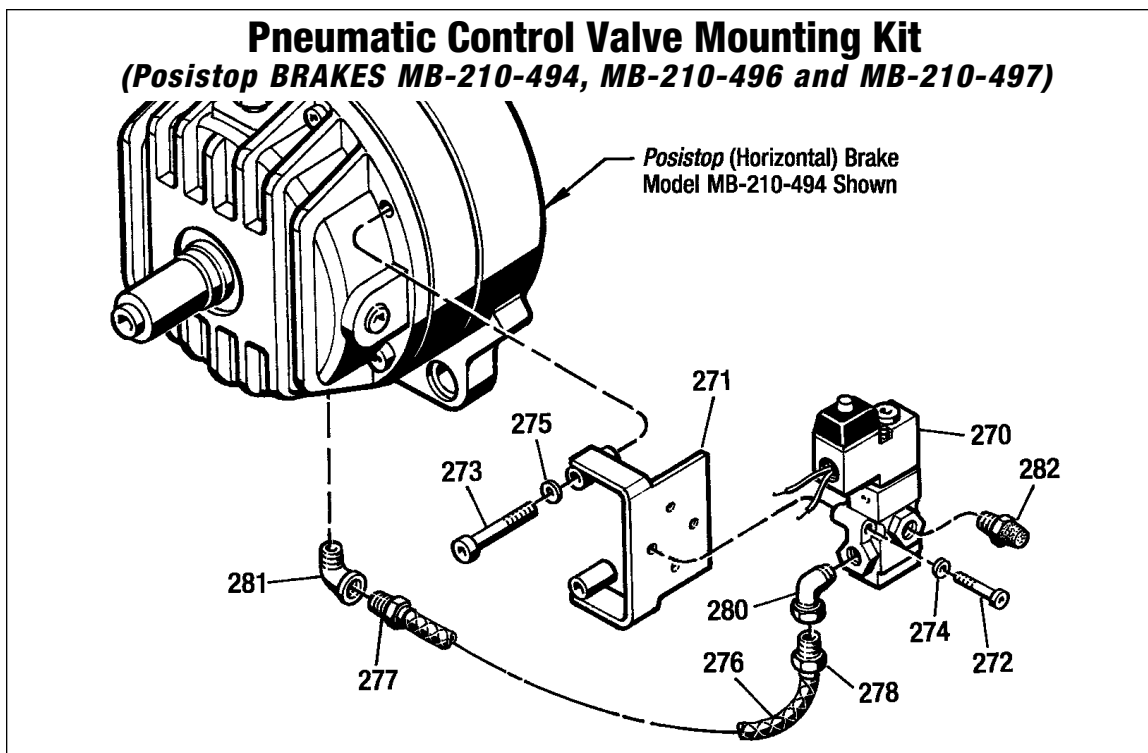

Figure 10.1 - Pneumatic Control Valve Mounting Kit
2. Reattach the Pneumatic Control Valve (#270) and Mounting Bracket (#271) with the (2) Screws (#273) and (2) Lockwashers (#275). (See Figure 10.1)